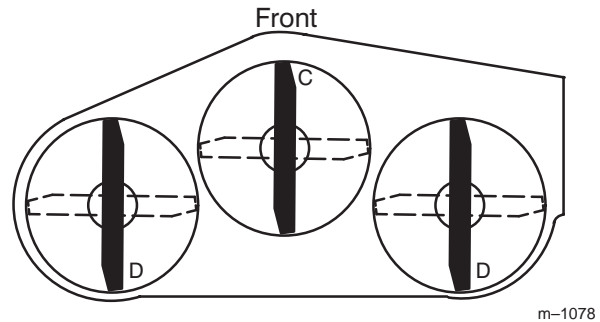
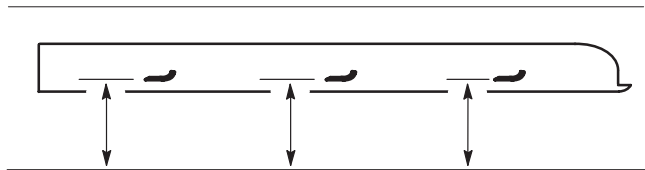

Figure 18
Figure 19
2. Position the blades front-to-rear (Fig. 18). Measure at "C" and "D" locations (Fig. 18) from a level surface to the cutting edge of the blades (Fig. 19).